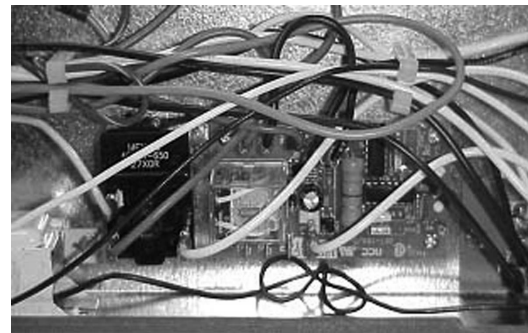

Figure 1. Timer Board
1. Disconnect all the terminals from the agitator timer board (**Figure 1**). Remove the timer board from the chassis and discard.